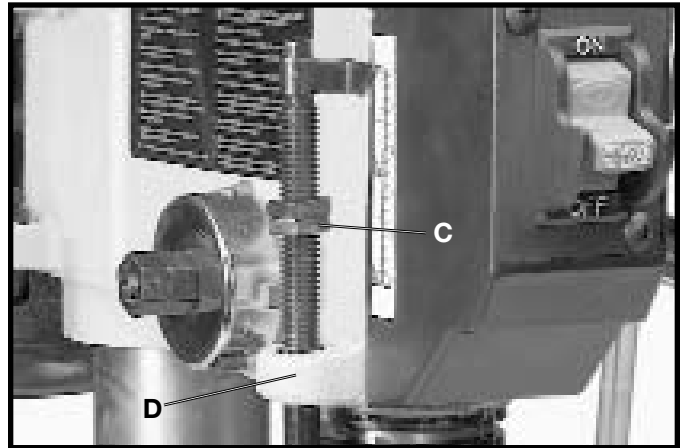

Fig. 26
2. Drill a test hole to check the adjustment and re-adjust if necessary. All holes will be drilled to the depth indicated by the setting of the lower stop nut (C) Fig. 26, as it contacts the depth stop (D) when the spindle is lowered.